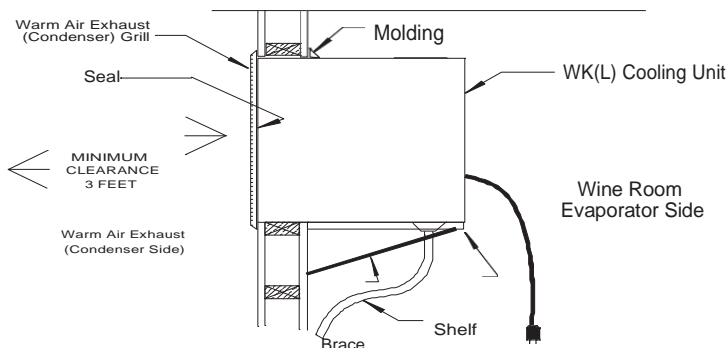
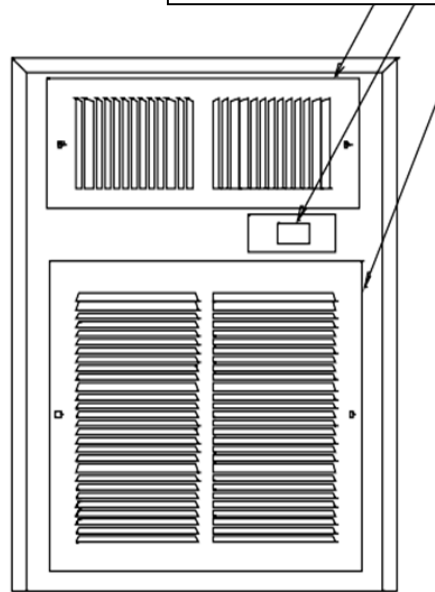

Figure 3
Figure 1
- ☞ This is a mechanical piece of equipment; it will make noise and produce heat on the warm side exterior condenser grille (Fig. 3). Remember, unit installation location is not only important inside the wine cellar, but just as important is where the warm side exhaust air is being rejected.
Before installing the unit, inspect it again for any shipping damage. Test the unit by placing it in a room where the temperature is above 65°F. Position the unit to allow cold air to flow from evaporator outlet. (See Fig. 1) Plug the unit's electrical cord into a properly grounded electrical GFCI outlet of adequate capacity (see unit specification for unit electrical requirements) and on its own circuit. *Recommend installing an appliance grade surge protector.* The Sentry III has no "off" position; therefore, it will begin to run within 5 minutes of being plugged in. Allow it to run for a minimum of 15 minutes. There should be a flow of cool air from the evaporator side upper grille (see Fig. 1) and warm air should be flowing from the upper opening on the warm air exhaust (condenser) grille (see Fig. 3).
Make sure that the warm air exhaust condenser grille can be properly attached to the unit (see Fig. 3).
If the unit is to be installed above floor level, construct a shelf as shown in Fig. 3. This shelf must be capable of supporting the weight indicated in the specifications. NOTE: Insulation placed between the unit and the shelf will reduce additional noise and help reduce condensate from forming on the underside of the unit.
Place the unit through the opening with the warm air exhaust side, flush to the outside of the wall (see Fig. 3). Attach the warm air exhaust condenser grille to the unit and to the wall with screws supplied with grille. Note: the unit may be installed with the cold side flush to the inside wall, however, two provisions must be made. First, insure the warm air exhaust grille will be installed. Second, insulate and vapor barrier the framed opening to prevent moisture in the wall from condensing on the cold surface of the cooling unit. Please remember that in all cases the warm air exhaust condenser grille must be directly attached to the warm side of the unit. Do not leave an air gap between the unit's surface and the warm air exhaust condenser grille. **The unit will not work properly without this grille.** The exhaust condenser grille has only a white primer coat. If the exhaust condenser grille is installed on an outside wall it should be coated with an appropriate paint.
BREEZAIRE is extremely proud of the quality and reliability of its products. Experience has shown that of the small number of problems encountered, the large majority are due to improper unit selection or enclosure construction. Should the cooling system be suspected of malfunctioning, check the temperature of the air being exhausted from the upper part of the warm air exhaust condenser grille. If it is warm, the unit is working. A further check may be made by comparing the air temperature entering the lower grille on the cold side (Evaporator side) with that leaving the upper cold side grille. (see Fig. 1) If the air leaving the unit is 6°F or more degrees colder than the temperature entering, the unit is working properly. In some cases, improper placement or installation may cause the unit's performance to be compromised. In situations where the ambient relative humidity is very low, the desired enclosure relative humidity may not be achieved without adding moisture. To add moisture to the enclosure only use slow, natural evaporation from a small porous water container. Do not use a humidifier.
Improper placement or installation may cause the unit's performance to be degraded. If the unit is exhausted into a confined area with poor ventilation or duct work, it will not be able to reject the heat and moisture it is removing from the enclosure and a malfunctioning unit will be suspected. If an obstruction to the flow of fresh air into or from the cooling unit (see Fig. 3) is stopped or restricted for any reason the unit could heat rather than cool the enclosure.